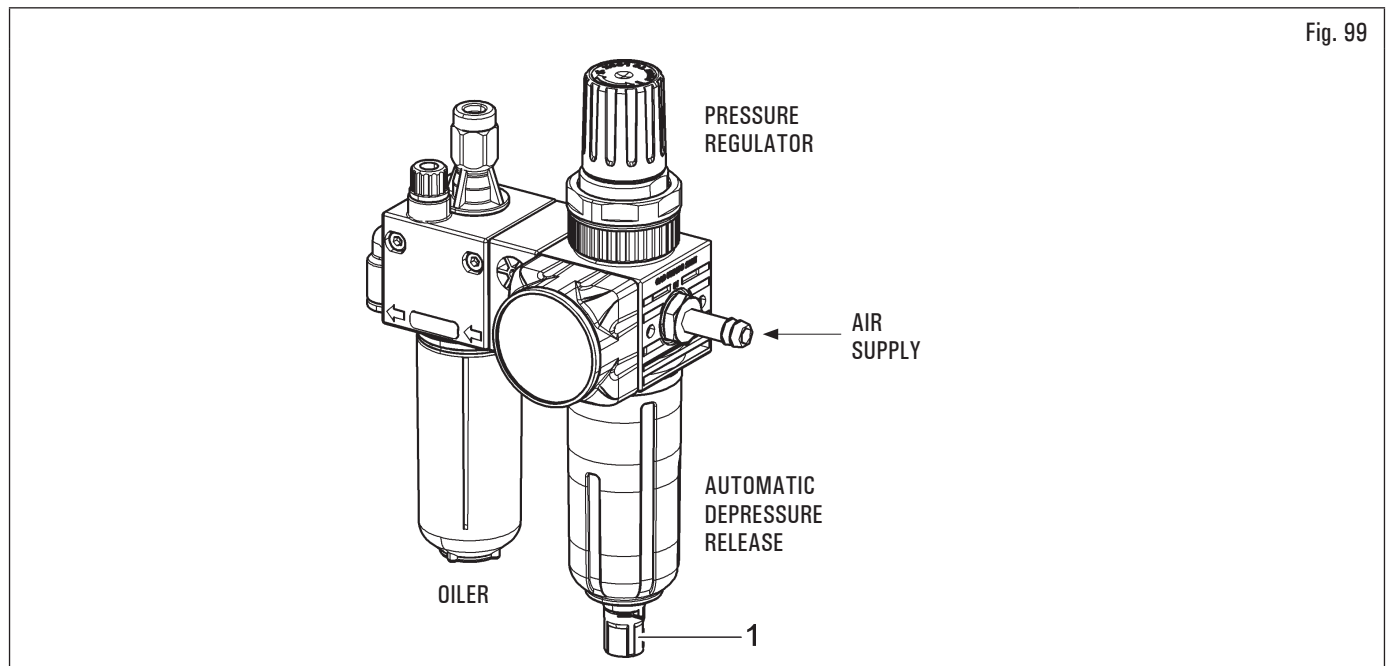

Fig. 99
- The conditioning assembly is equipped with an automatic vacuum-operated drain therefore it requires no manual intervention by the operator (see Fig. 99).
In order to ensure a good functioning and to avoid the presence of condensation in the air treatment assemblies with semi-automatic drain, it's necessary to make sure about the correct position of the valve (Fig. 99 ref. 1), placed under the cap. To activate a correct drain function, the cap must be rotated in the right way.